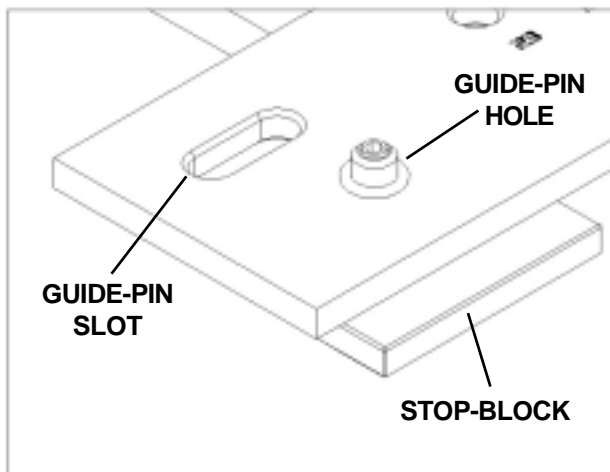

Figure 1
2. Attach the stop-block in the guide-pin hole that is below the guide-pin slot with the desired starting hole dimension facing hole number 23 of the hole-boring template as shown in Figure 1.